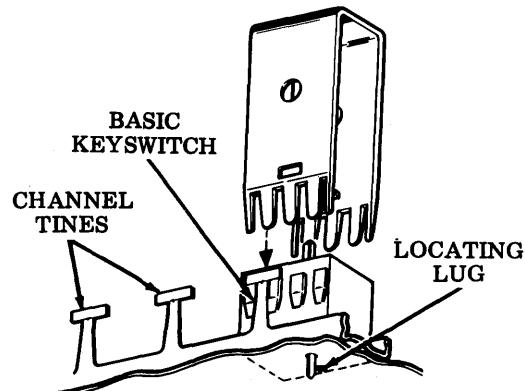

Fig. 13—Keyswitch Removal
- Place 346257 tool over the keyswitch and press downward. When the tool bottoms and embossed projections snap into notches on keyswitch, squeeze and pull back on the tool to lift keyswitch out (Fig. 13).